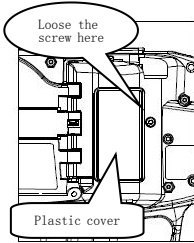

Fig. 1
1). Loose screws fastened in motor plastic cover by hex wrench and take them out, then open the plastic cover (Fig. 1)